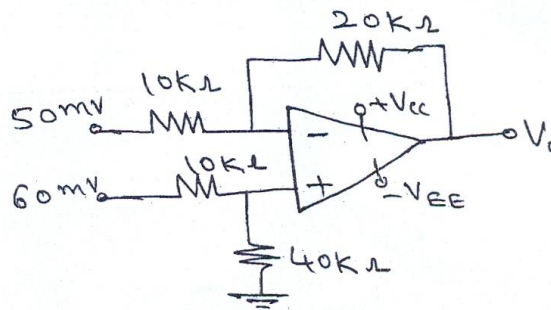

Fig.Q.4(b)
- b. For the op-amp circuit shown in Fig.Q.4(b), find the output voltage. (04 Marks)